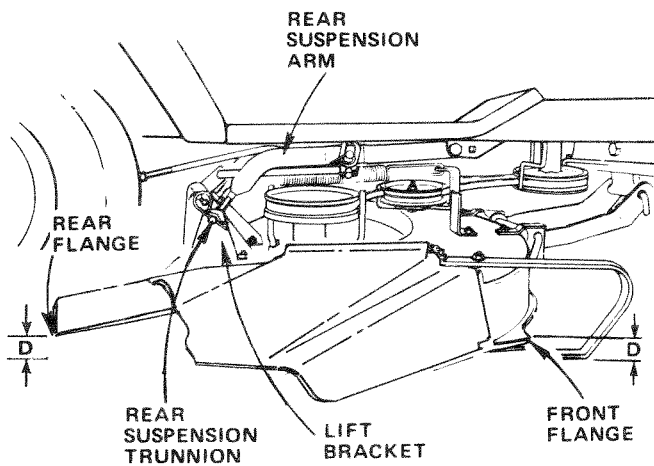

FIGURE 17
1. To obtain the best cutting results, your Mower Housing should be adjusted so the Front and Rear Flange distance "D" (Fig. 17) is 1/2" lower in front when the mower is positioned in the highest cutting position. NOTE: MEASURE DISTANCE "D" FROM SURFACE TO RIGHT REAR FLANGE AND COMPARE TO DISTANCE "D" AT RIGHT FRONT FLANGE.